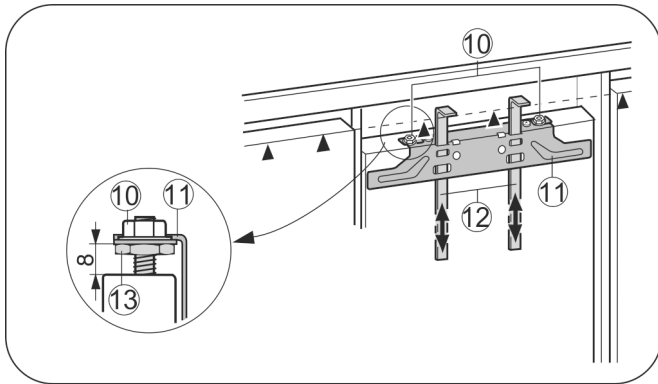

Fig. 28
- ▶ Raise the fitting aids Fig. 28 (12) to unit door height. Bottom stop edge of ▲the fitting aid = top edge of the unit door to be fitted.
- ▶ Unscrew the crosspiece Fig. 28 (11) by undoing the locknuts Fig. 28 (10).